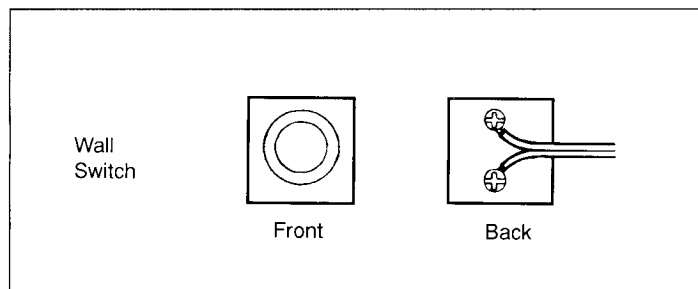

Figure 16
Step 32: Attach one wire to each of the two terminal screws on the back of the wall switch (see Figure 16).